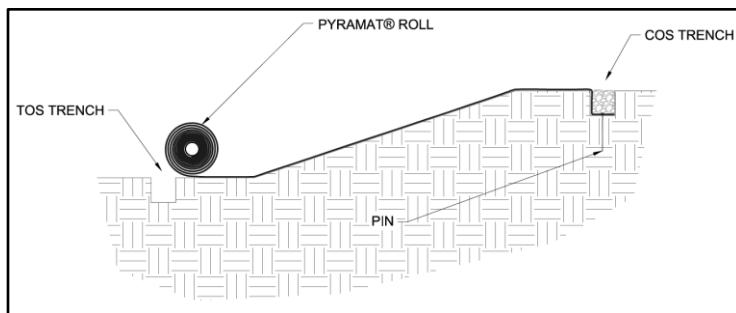

Figure 6: Placement of PYRAMAT across Slope
5. Unroll the PYRAMAT roll on the slope surface in the area to be armored (Figure 6). Ensure that PYRAMAT has intimate contact with the ground and all irregular surfaces beneath PYRAMAT are removed.